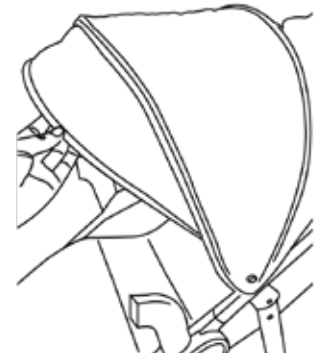

Fig. 5
9. To open the sun visor: grab front edge of sun visor under canopy and pull down and rotate forward until fully extended. (Fig. 5)